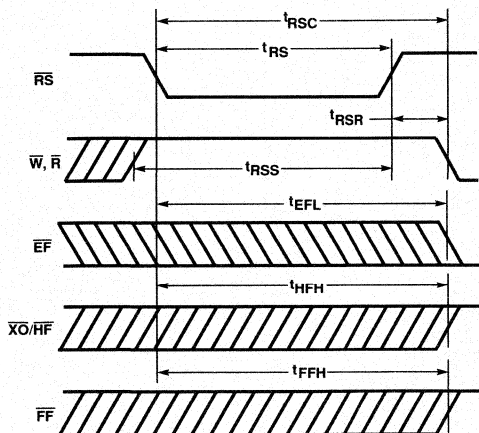

Figure 2. Reset Timing
Upon power up, the FIFO must be initialized with a Reset cycle. (See Figure 2.) The states of XI and FL are used during the reset cycle to determine the FIFO's mode of operation, as shown in Tables 1 and 2. For a valid reset cycle to occur, both the Read ( $\overline{R}$ ) and Write ( $\overline{W}$ ) signals must be HIGH  $t_{R_{SS}}$  prior to and  $t_{R_{SR}}$  after the rising edge of Reset (RS). The reset cycle initializes the FIFO to an empty condition, signified by the Empty Flag ( $\overline{EF}$ ) being LOW, active, and both the Half-Full (HF) and Full Flag (FF) being HIGH, inactive.